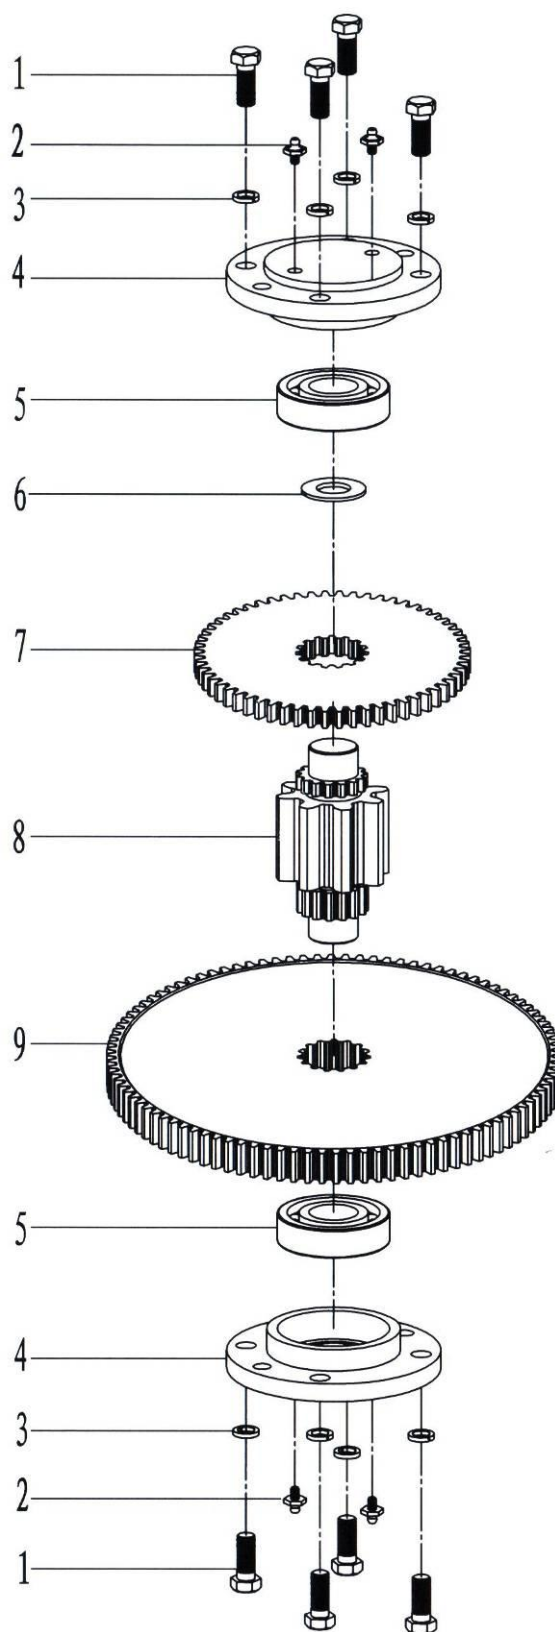
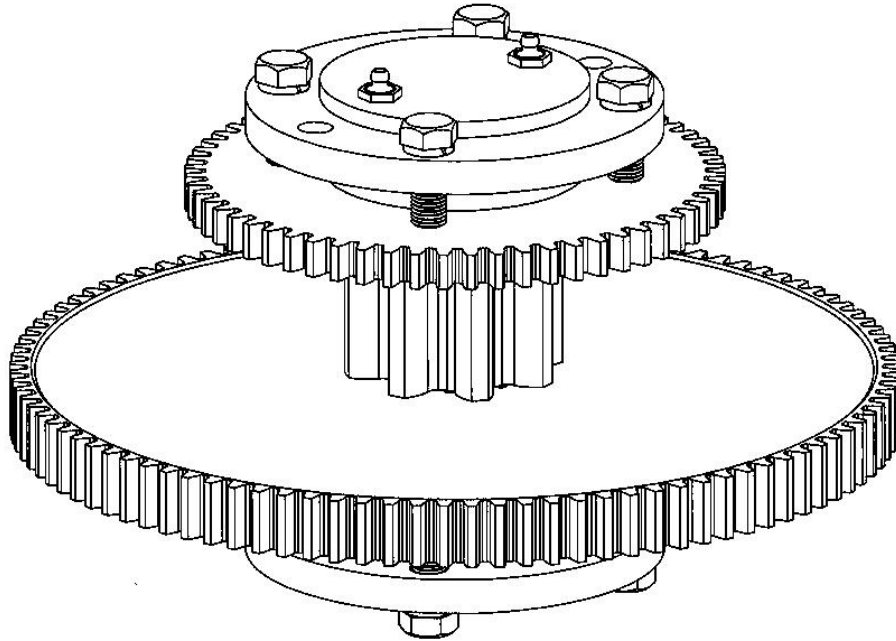

Fig. 10
Fig. 11
7.1.5 Pinion assembly(Fig.10, Fig.11, Table.7)